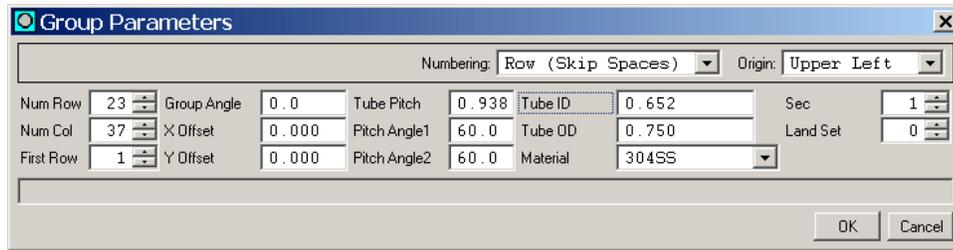

Figure 7-10. Completed Group Parameters Dialog for Section 1
- STEP 33:** The *Group Parameters* dialog should not look like Figure 7-10. Click *OK* on the *Group Parameters* dialog.